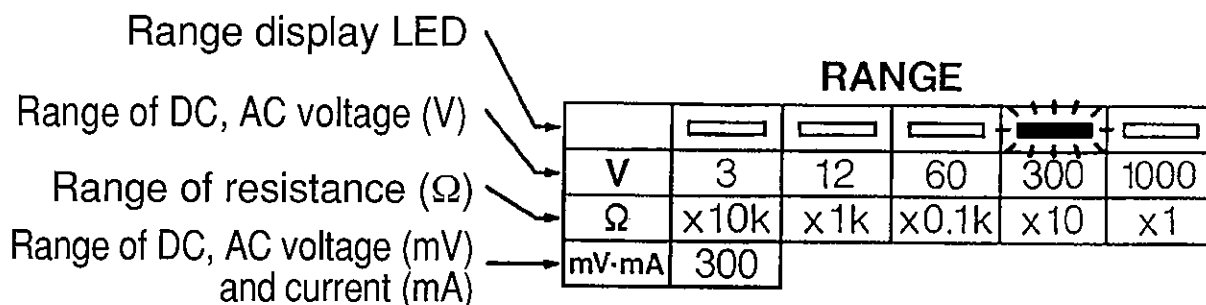

Fig. 4 Range Display and Example of Measurement
2. Range display: LED lit on 300 (Fig. 4)